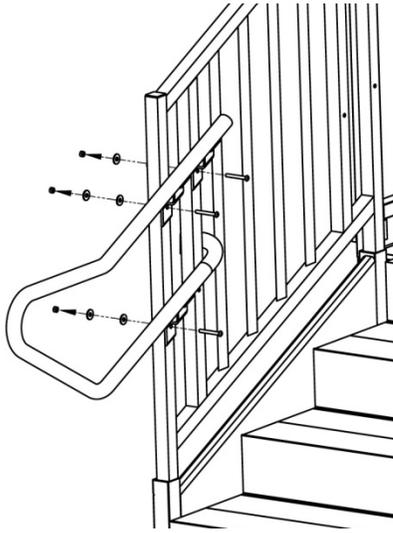

FIG. 16
- 4.2.2 Install a 5/16"-18 x 2-1/2" button head bolt, two washers and nylock nut in each bracket (place two washers and nylock nut on the outside of the guard) and tighten all fasteners securely (FIG. 16).